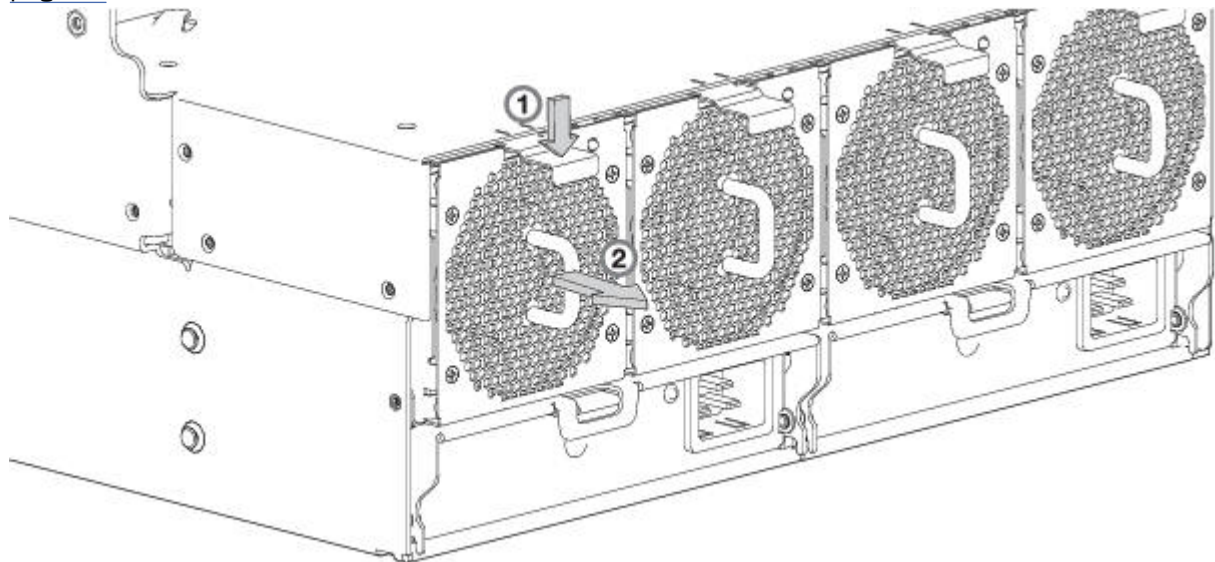
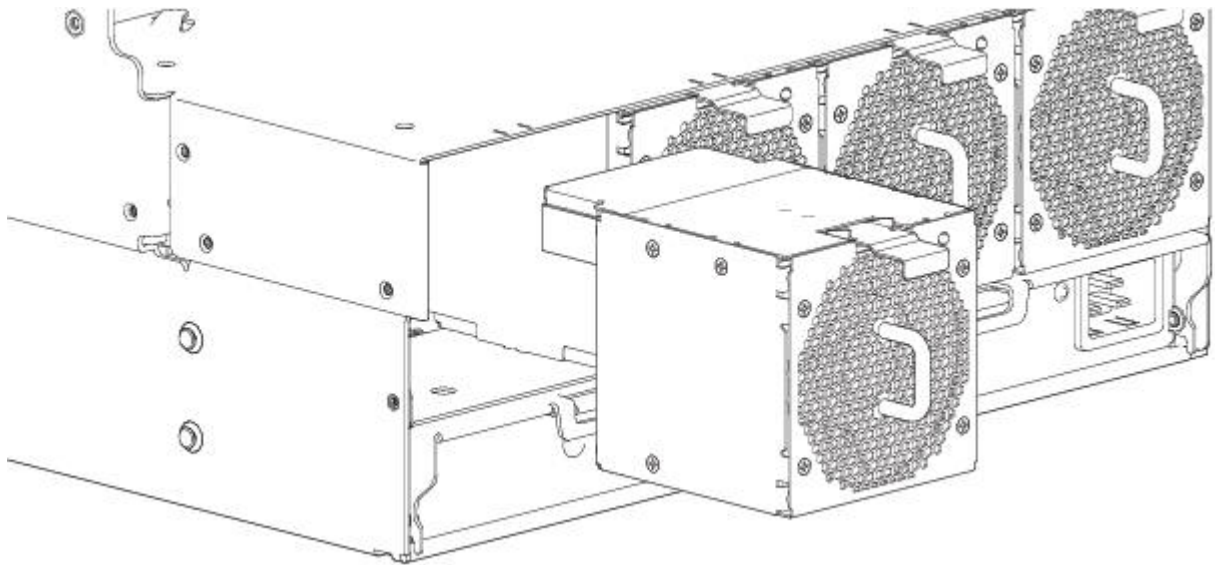

Figure 64. Removing a system fan (1 of 2)
Figure 65. Removing a system fan (2 of 2)
1. Press down on the latch tab to release the fan from its locked position. See detail No.1 in Figure 64 on page 71.
2. Grasp the fan module handle and carefully pull the fan out of its slot. See detail No.2 in Figure 65 on page 72.
Refer to Figure 64 on page 71 and Figure 65 on page 72 when performing this procedure, but ignore the directional arrow—since you will insert the module into the slot—rather than remove it.
2. Align the system fan module for insertion into its slot, as shown in Figure 65 on page 72.